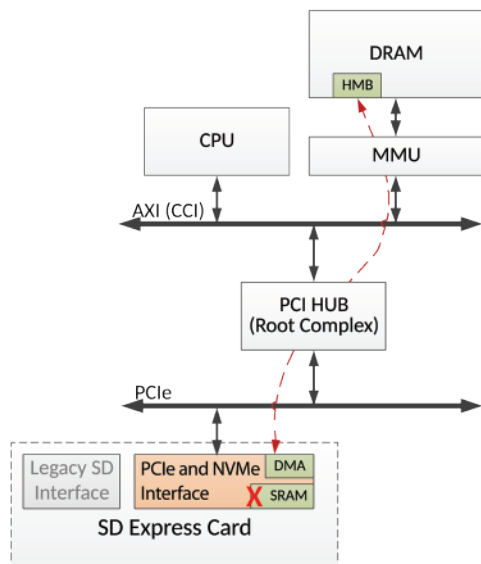

Figure 8 – Host memory buffer description
- High performance architecture usually requires extra controller resources. For example, embedded SRAM which is quite expensive compared to DRAM, see Figure 8.